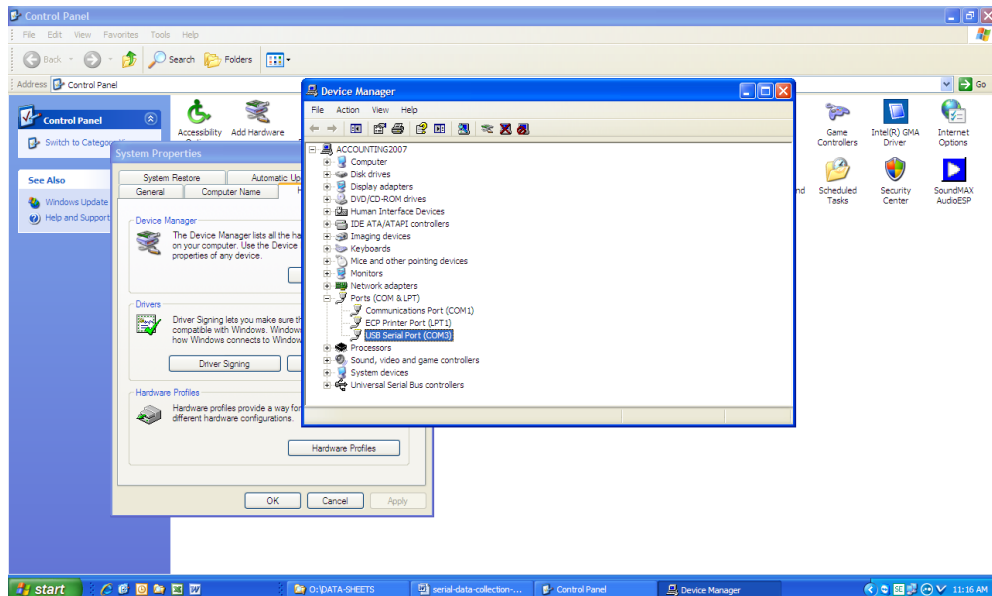

Figure 4
b. After the drivers have installed verify which “Com Port” the adapter is using by going to your computer’s “Device Manager” (can be found by going to: Control Panel – System – Device Manager-Ports). (Figure 4.)
1. Next, select “Ports” and with the USB adapter connected to your computer note which COM port your USB Serial Port has selected. (Figure 4.)